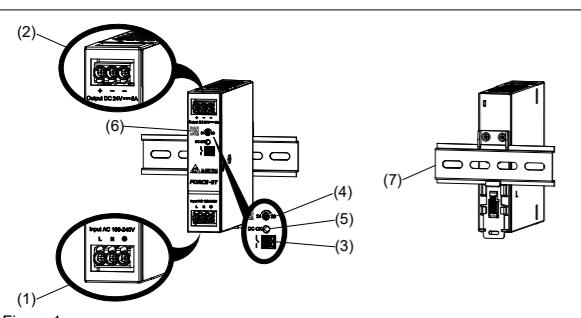

Figure 1
2. Device description (Fig. 1)
4.1. Input connection (Fig. 1 (1), Fig. 5)